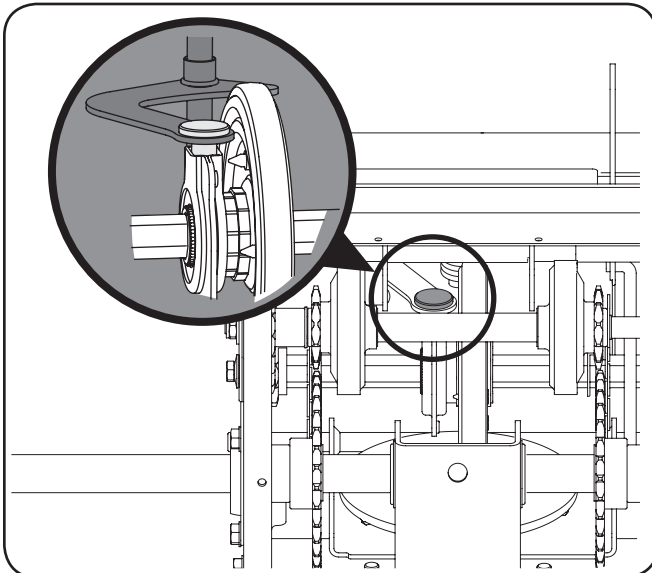

Figure 7-12
9. Reposition the friction wheel assembly in the snow thrower frame. Insert the pin from the shift arm assembly into the friction wheel assembly and hold assembly in position. Refer to Figure 7-12.